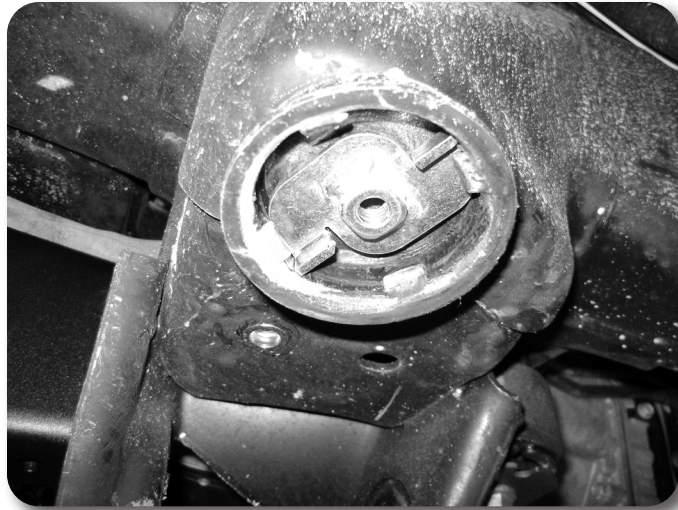

Figure 24
37. Locate the rear bump stop brackets and two nut plates. Install the nut plates in the factory bump stop cups so the tabs point down and lock in place against the tabs in the cup. Figure 24 Attach the bump stop bracket to the factory mount with a 3/8" x 1" bolt, flat washer and lock washer into the nut plate. Snug hardware. Fasten the back tab of the bracket to the rivet nut with a 3/8" x 1-1/4" bolt, flat and lock washer. Torque 3/8" hardware to 30 ft-lbs.